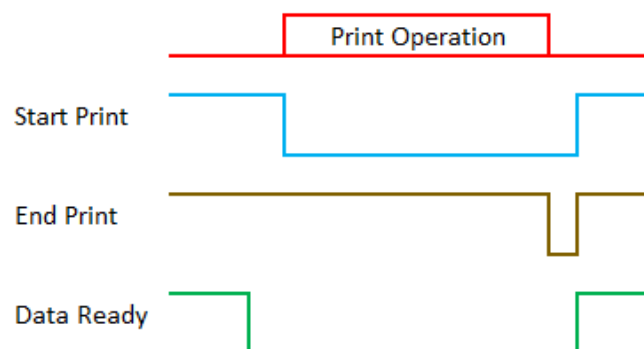

Figure 4
- d. The timing chart is shown in Figure 4.